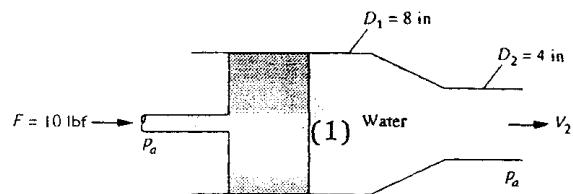

Fig. P3.174
**3.174** In Fig. P3.174 the piston drives water at 20°C. Neglecting losses, estimate the exit velocity  $V_2$  ft/s. If  $D_2$  is further constricted, what is the maximum possible value of  $V_2$ ?